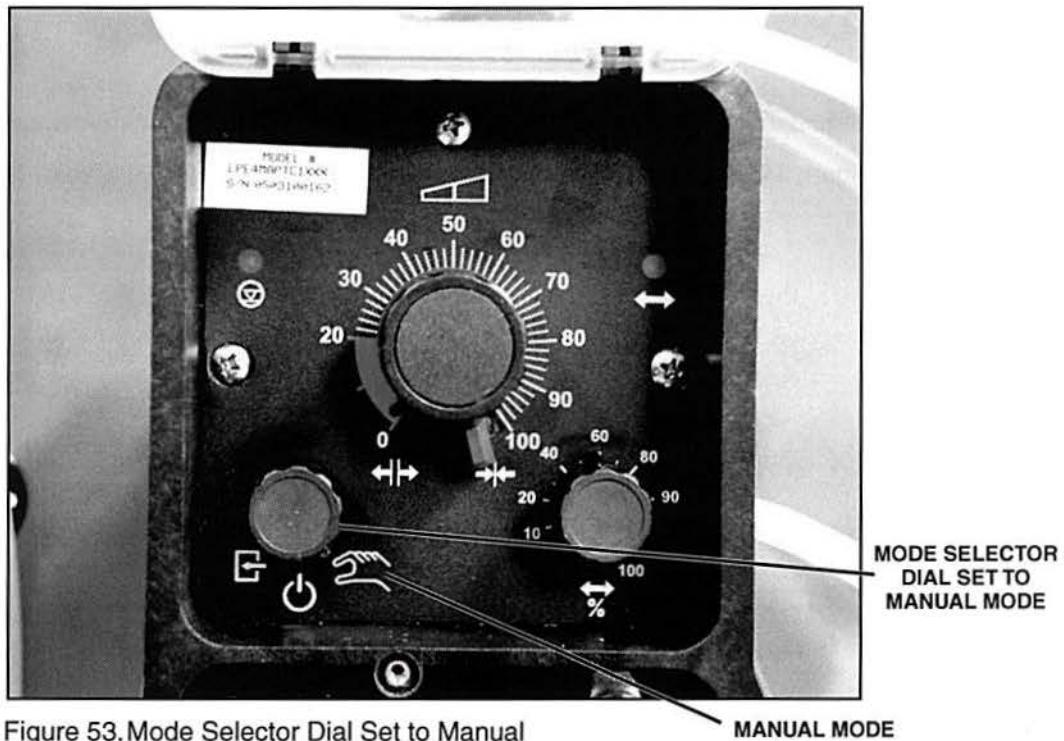

Figure 53. Mode Selector Dial Set to Manual
D. Set the mode selector dial to the Manual position, as shown in figure 53.